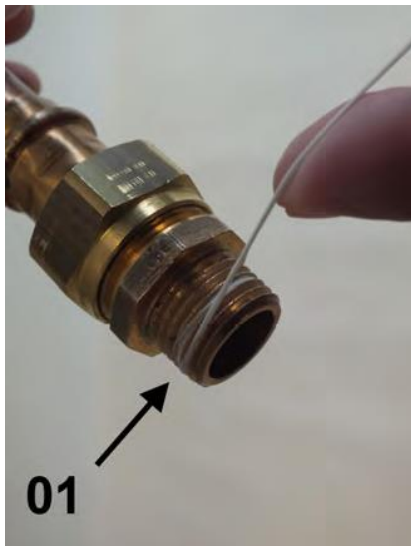

Fig. 9: Apply sealing thread
2. ► Apply sealing thread (Fig. 9/01) to the napped thread in the threaded direction. Observe the quantity recommended by the sealant manufacturer.